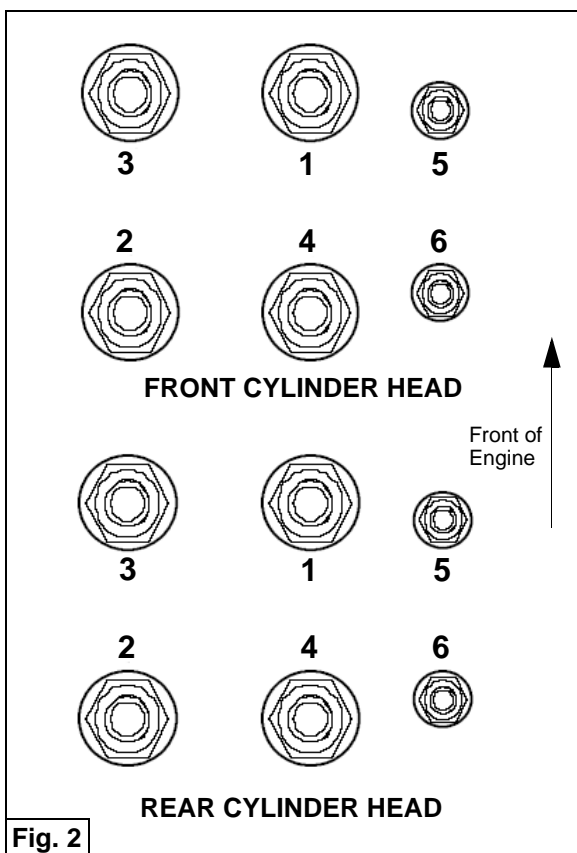

Fig. 2
14. *Slowly and evenly* tighten cylinder head nuts following torque sequence in Fig. 2. This allows hydraulic lifters to bleed off pressure. Tighten only enough to seat cam carrier on head.
**Step 2** Follow torque pattern shown in Fig. 2.